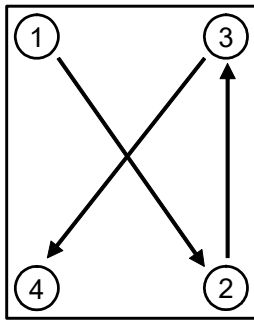

Fig.5-7 : Example of order which tighten bolts
- 4) Confirm that packing is stuck correctly and install the cover. When tightening the bolts fixing the cover, avoid tightening them to a specified torque at a time. Tighten the bolt in the order shown as much as possible in the "Fig. 5-7 Example of order which tighten bolts" The torque which tightens the fixing bolt of each cover is shown in "Table 5-4 : Cover name and installation screw list".